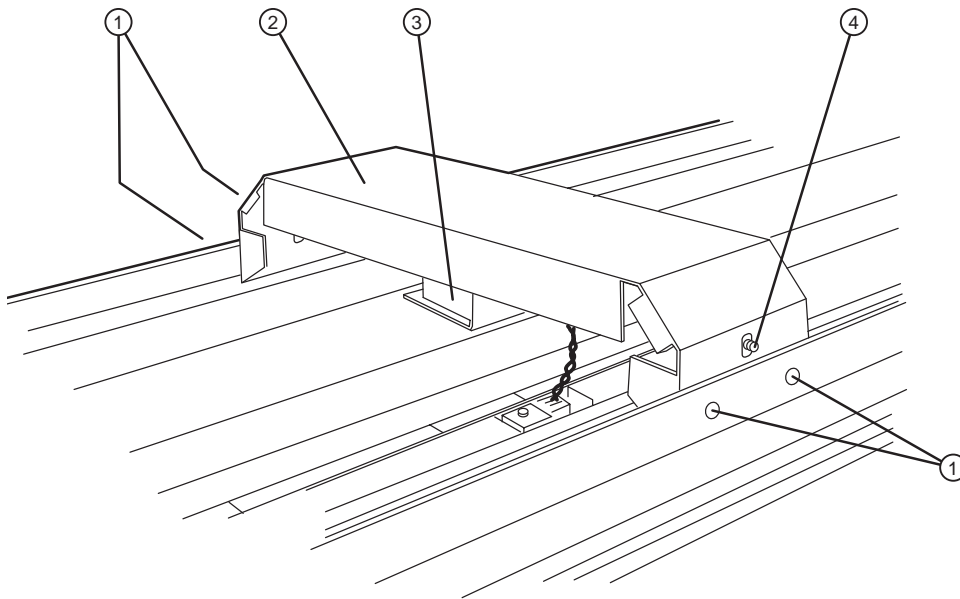

Figure 2-3 Carriage drive motor cover.
2. Remove the four (4) screws from the brace located in the top center of the buffer. Refer to Figure 2-3.